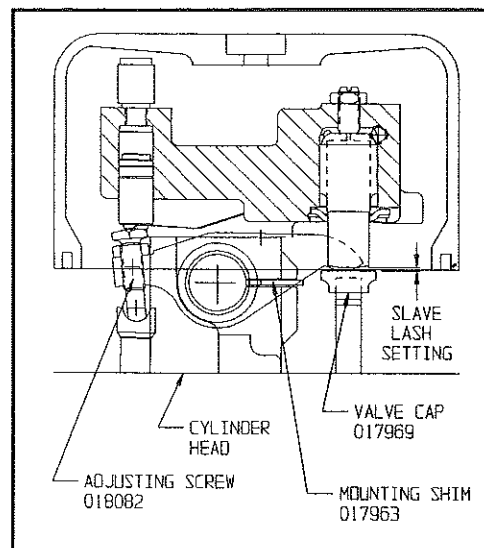

Fig. 2
8. Replace six exhaust valve caps with *Jacobs* valve caps (Fig. 2).